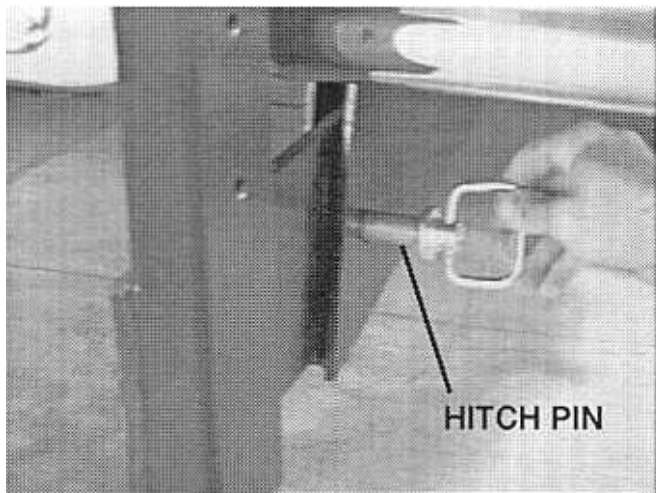

Figure 12
4. Retain 3/4" pins by installing 3/16" linchpin into hole in 3/4" pins. See Figure 12.